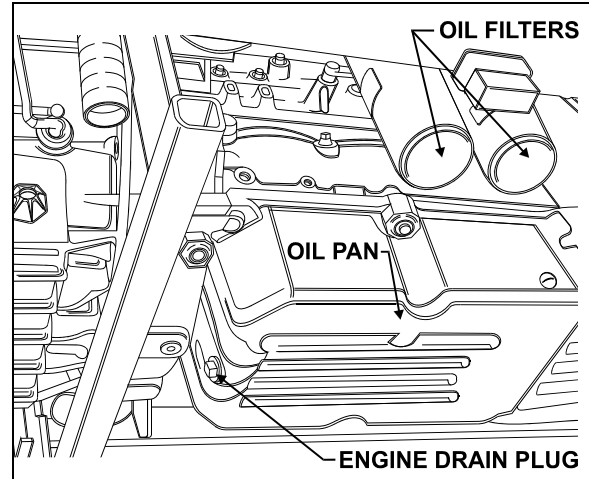

FIGURE 14: ENGINE DRAIN PLUG AND OIL FILTERS
1. From under the vehicle, remove the engine drain plug on the oil pan. Allow oil to drain (Fig. 14).